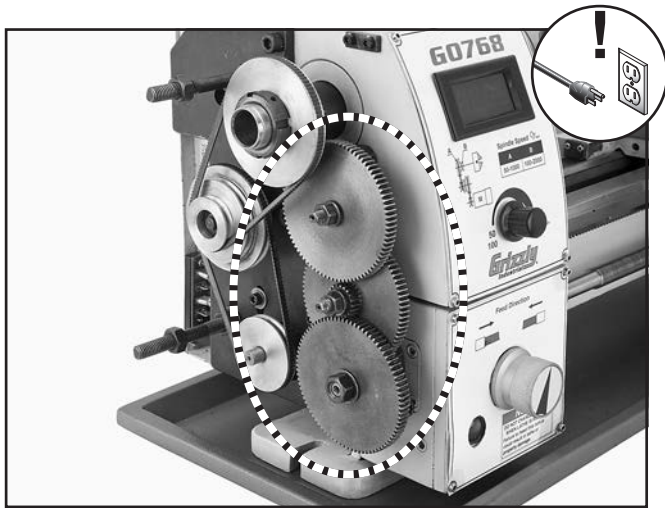

Figure 131. End gears.
The end gears, shown in **Figure 131**, should always have a thin coat of heavy grease to minimize corrosion, noise, and wear. Wipe away excess grease that could be thrown onto the V-belts and reduce optimal power transmission from the motor.
2. Remove end gear cover and all end gears shown in **Figure 131**.